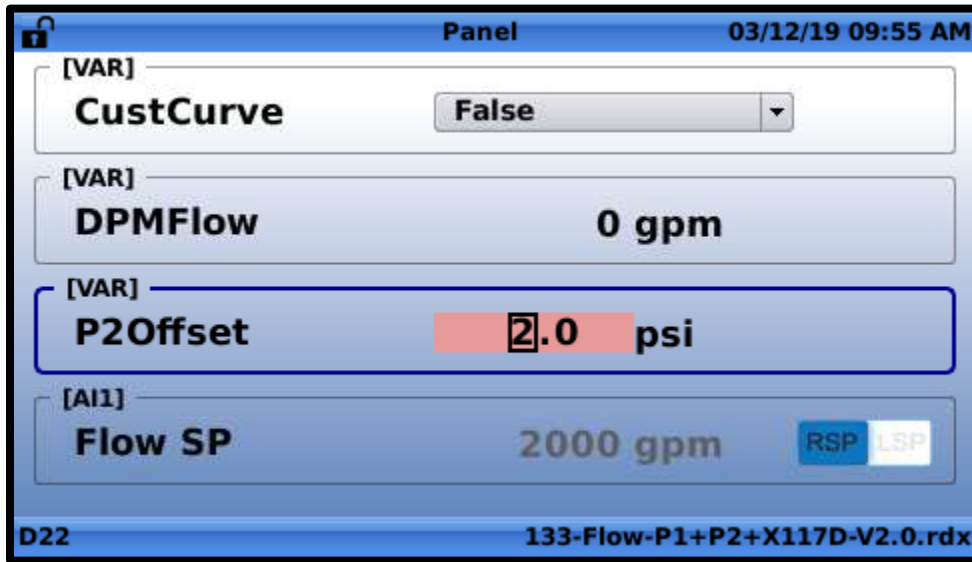

Figure 8.2
- Highlight the interactive variable to be changed and press “OK”. Enter the desired value as shown in **FIGURE 8.2**.